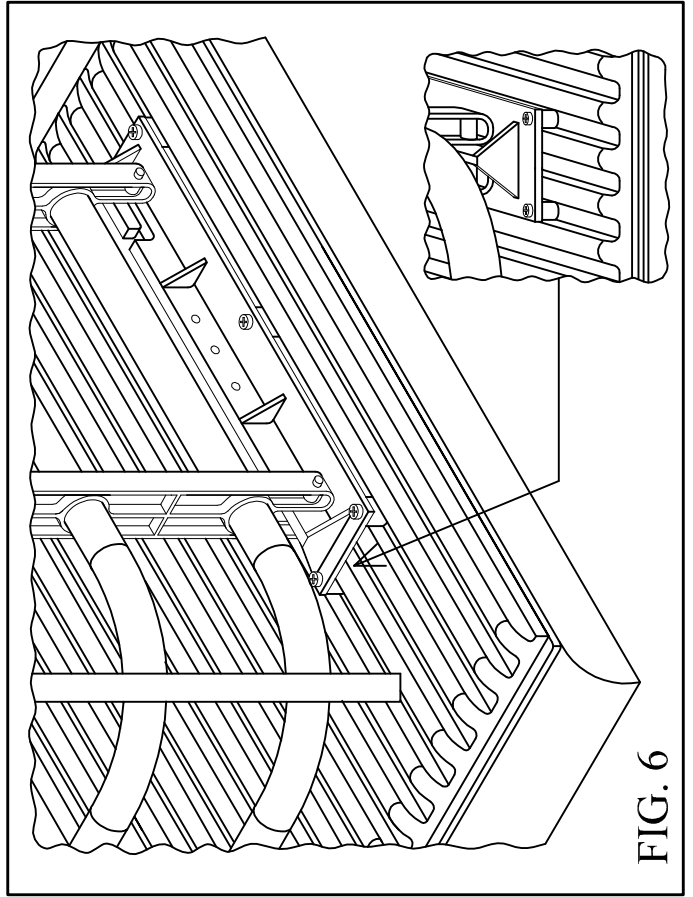

FIG. 6
10. **See Fig 6:** If the placement of the Bed Extender is such that the mounting bracket holes are not supported by the tailgate protector ridges, use the small or large spacers to level the mounting bracket.